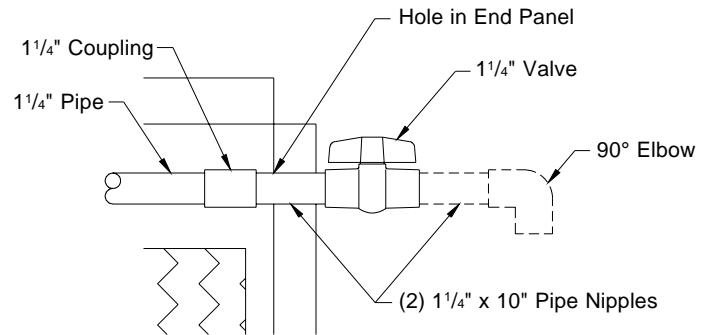

Figure 25
- 1) If Flush Out Kit (EC1506) was purchased, refer to page 9, Step 17a for instructions on drilling hole end panel. Remove the TEK screw and pipe cap from the end of distribution pipe. Assemble Flush Out Kit piping as shown in **Figure 25**. Installation of the 90° elbow and (1) 1 1/4" x 10" pipe is optional, depending of the desired direction for water flow.